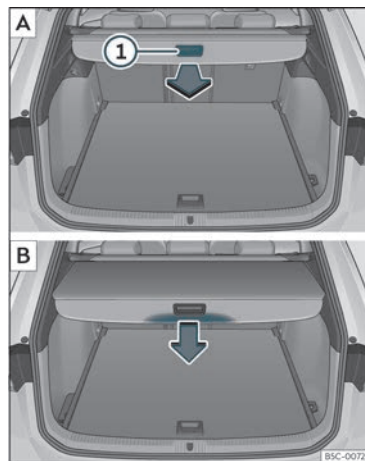

Fig. 109 In the luggage compartment: unrolling and rolling up the shelf.
- Pull evenly on the rear shelf using its handle >>> **Fig. 109** ① **A** in a backwards direction until it audibly clicks into place.
- Press on the handle of the rear shelf in the direction of the arrow to release it >>> **Fig. 109** **B**.